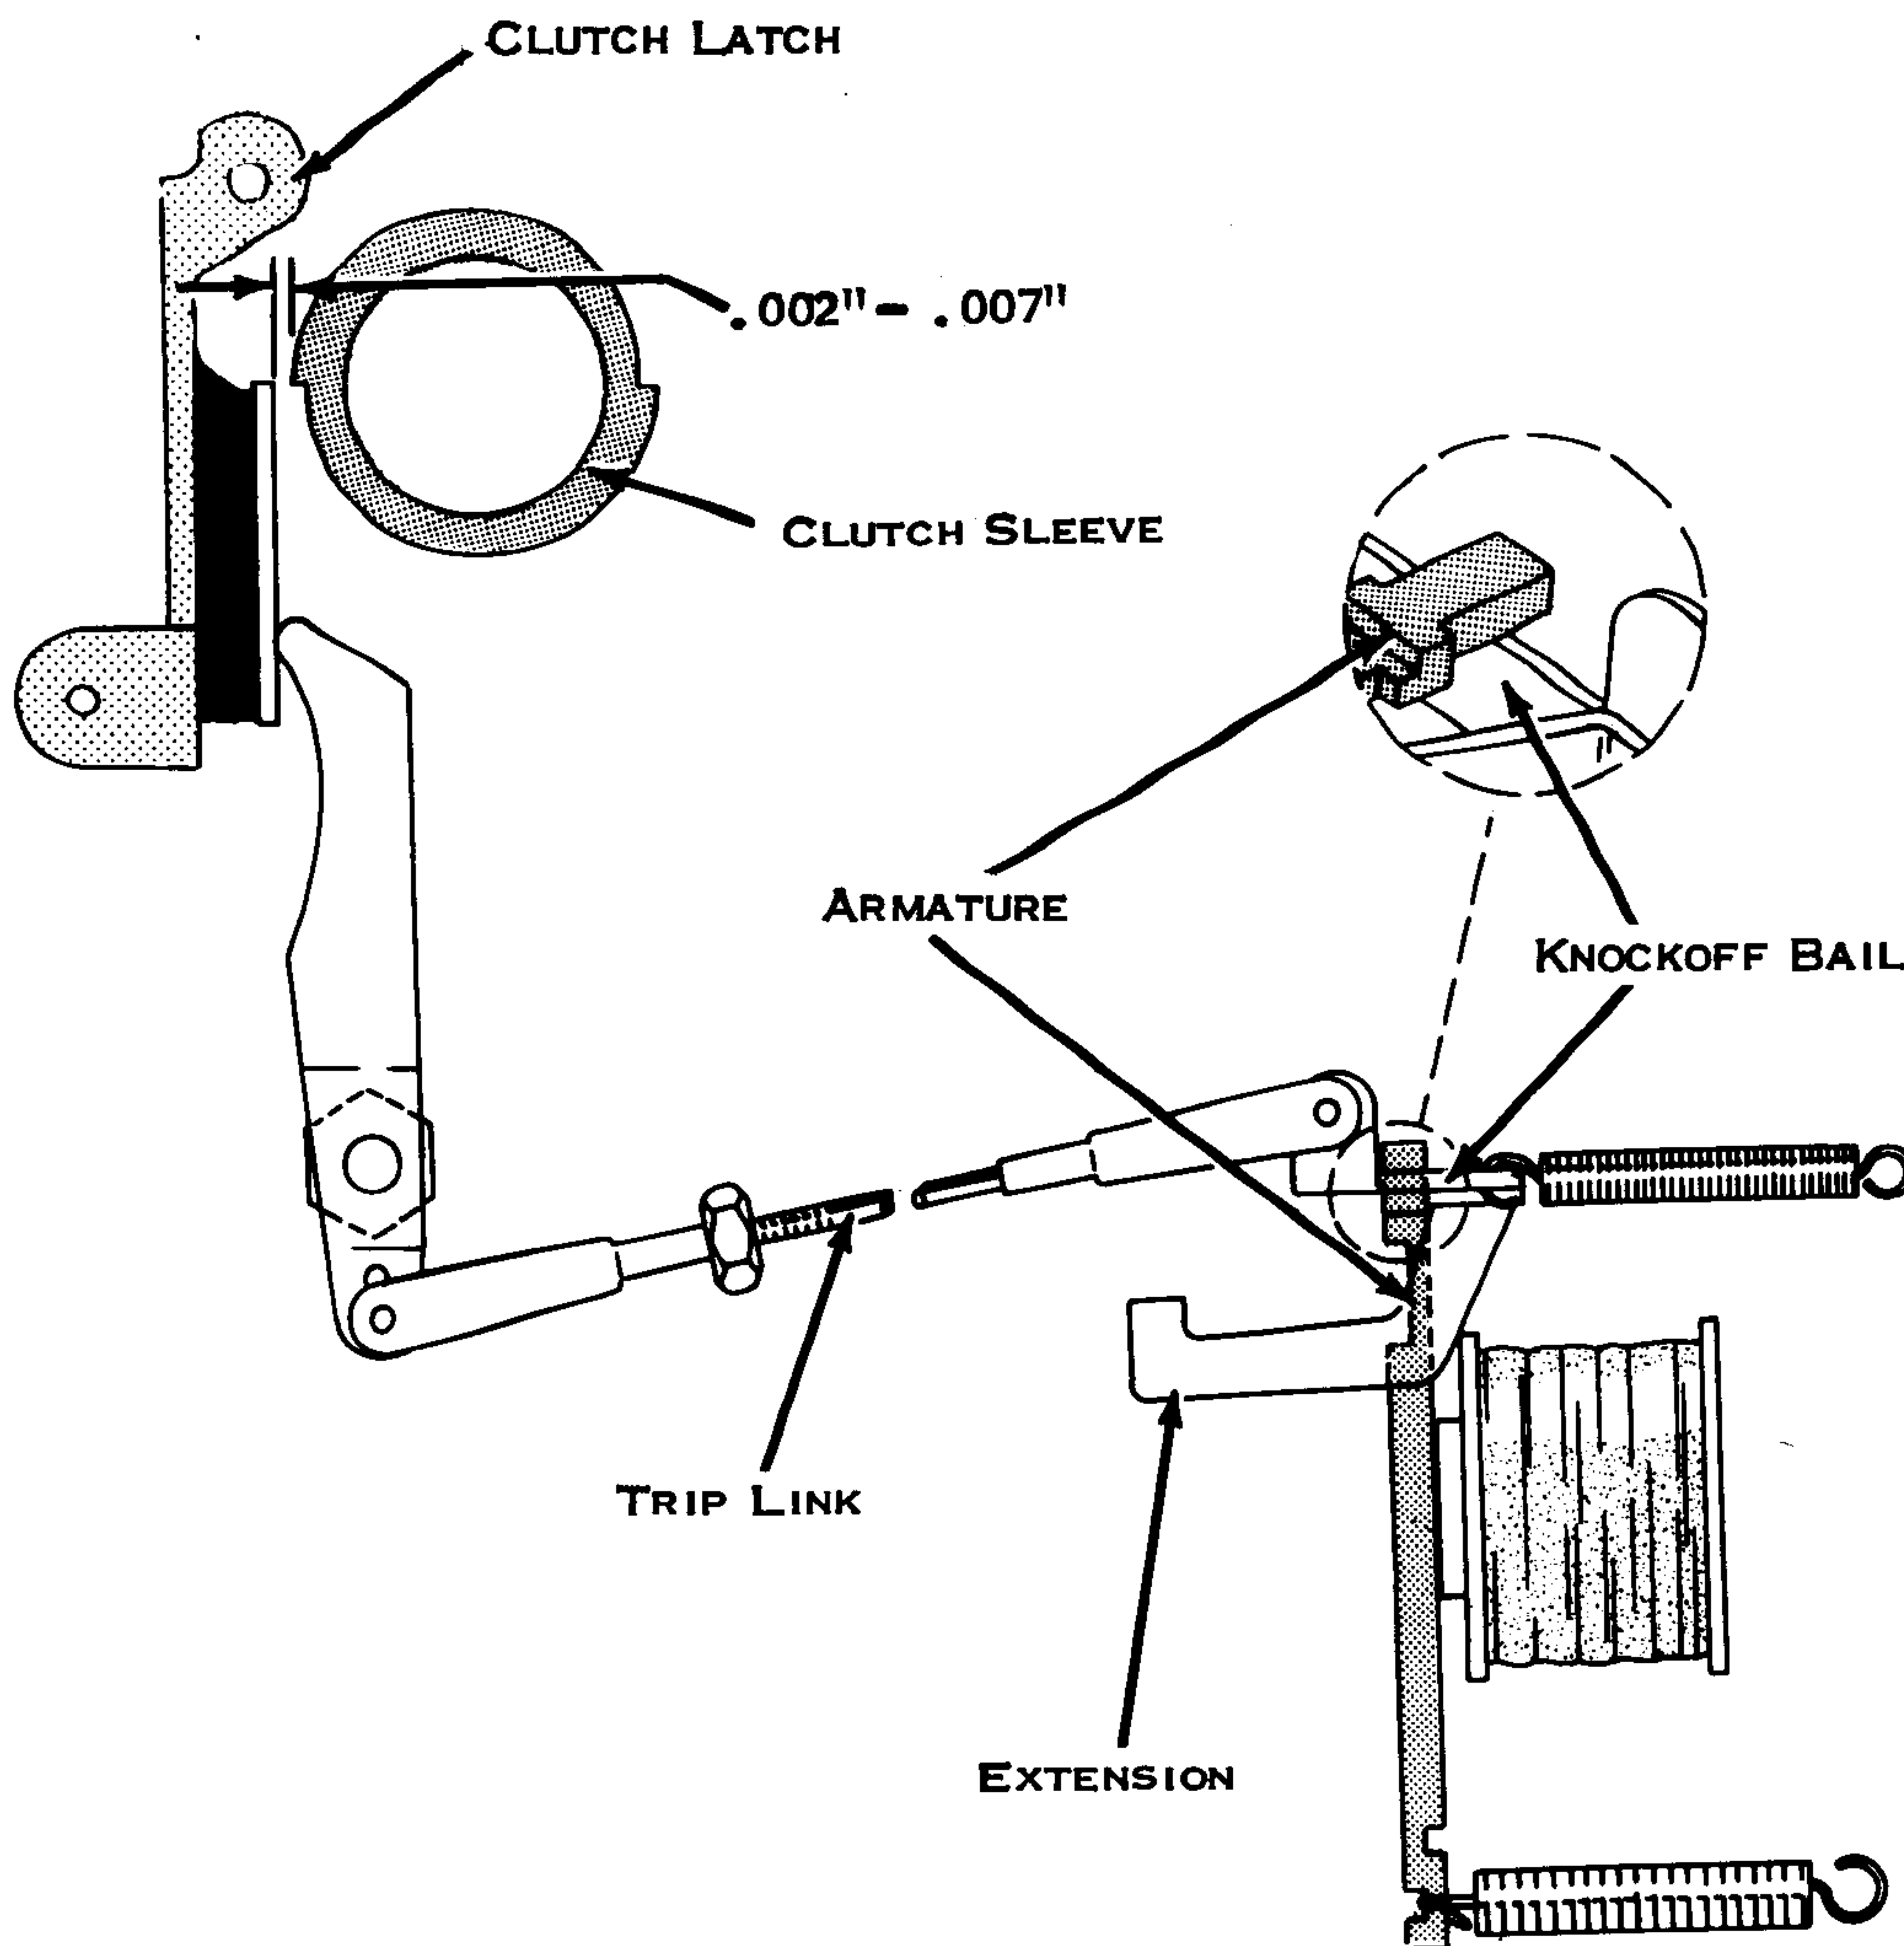

Figure 31. Old-Style Cycle-Clutch Trip-Link Adjustment
1. Trip Link (Fig. 31) - Hold a print magnet armature attracted and adjust the cycle clutch trip link clevis to move the cycle clutch latch .002" to .007" away from the clutch sleeve.